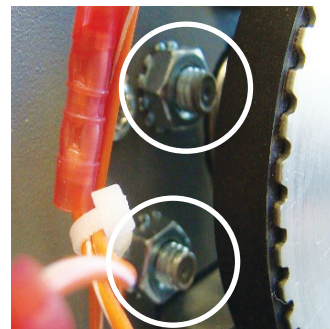

Fig 11a
3. On the non-operator side, loosen the 4 nuts behind the drive pulley with a 7/16 open end wrench (fig. 11a and 11 b).